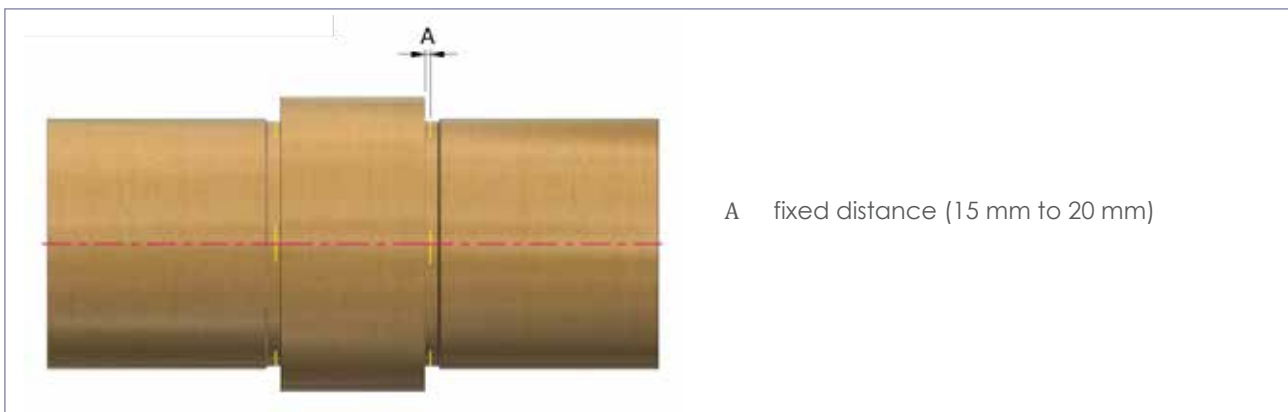

Figure 40 - Marking coupler positions
- c) The coupler position relative to both pipes should be marked at 4 points around the circumference see Figure 40 as reference for later checks.
- d) If a coupler has moved, the new position relative to both pipes should be marked at 4 points around the circumference, see Figure 40.